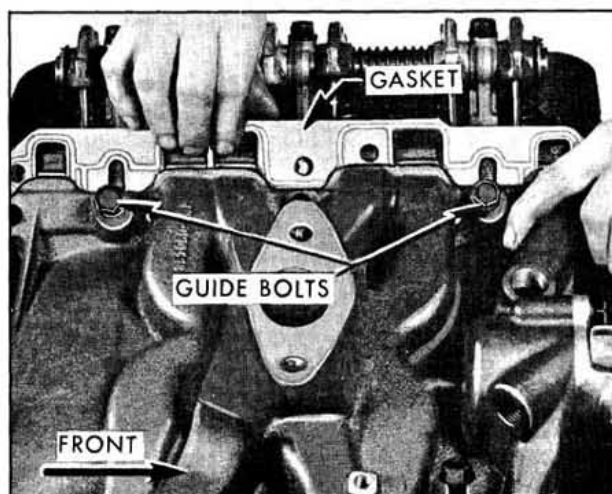

Fig. 3-14 Intake Manifold Gasket
3. Lift the manifold slightly and slip the gaskets into position as shown in Fig. 3-14. Take care to see that the gasket is installed with
the three intake manifold ports aligned with the head and manifold. The gasket should be installed as shown in Fig. 3-14 on the left side and reversed for right side installation.